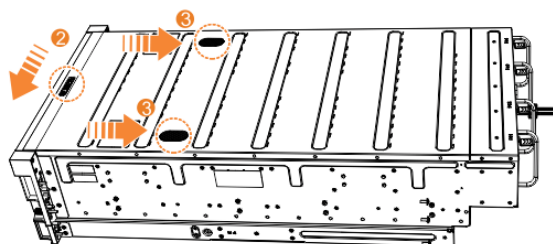

Figure 111. Replacing the top cover
7. Push the cover release lever to the side (2) as shown in Figure 111 on page 170.
8. Slide the cover towards the back of the enclosure (3) back until it stops, as shown in Figure 111 on page 170.